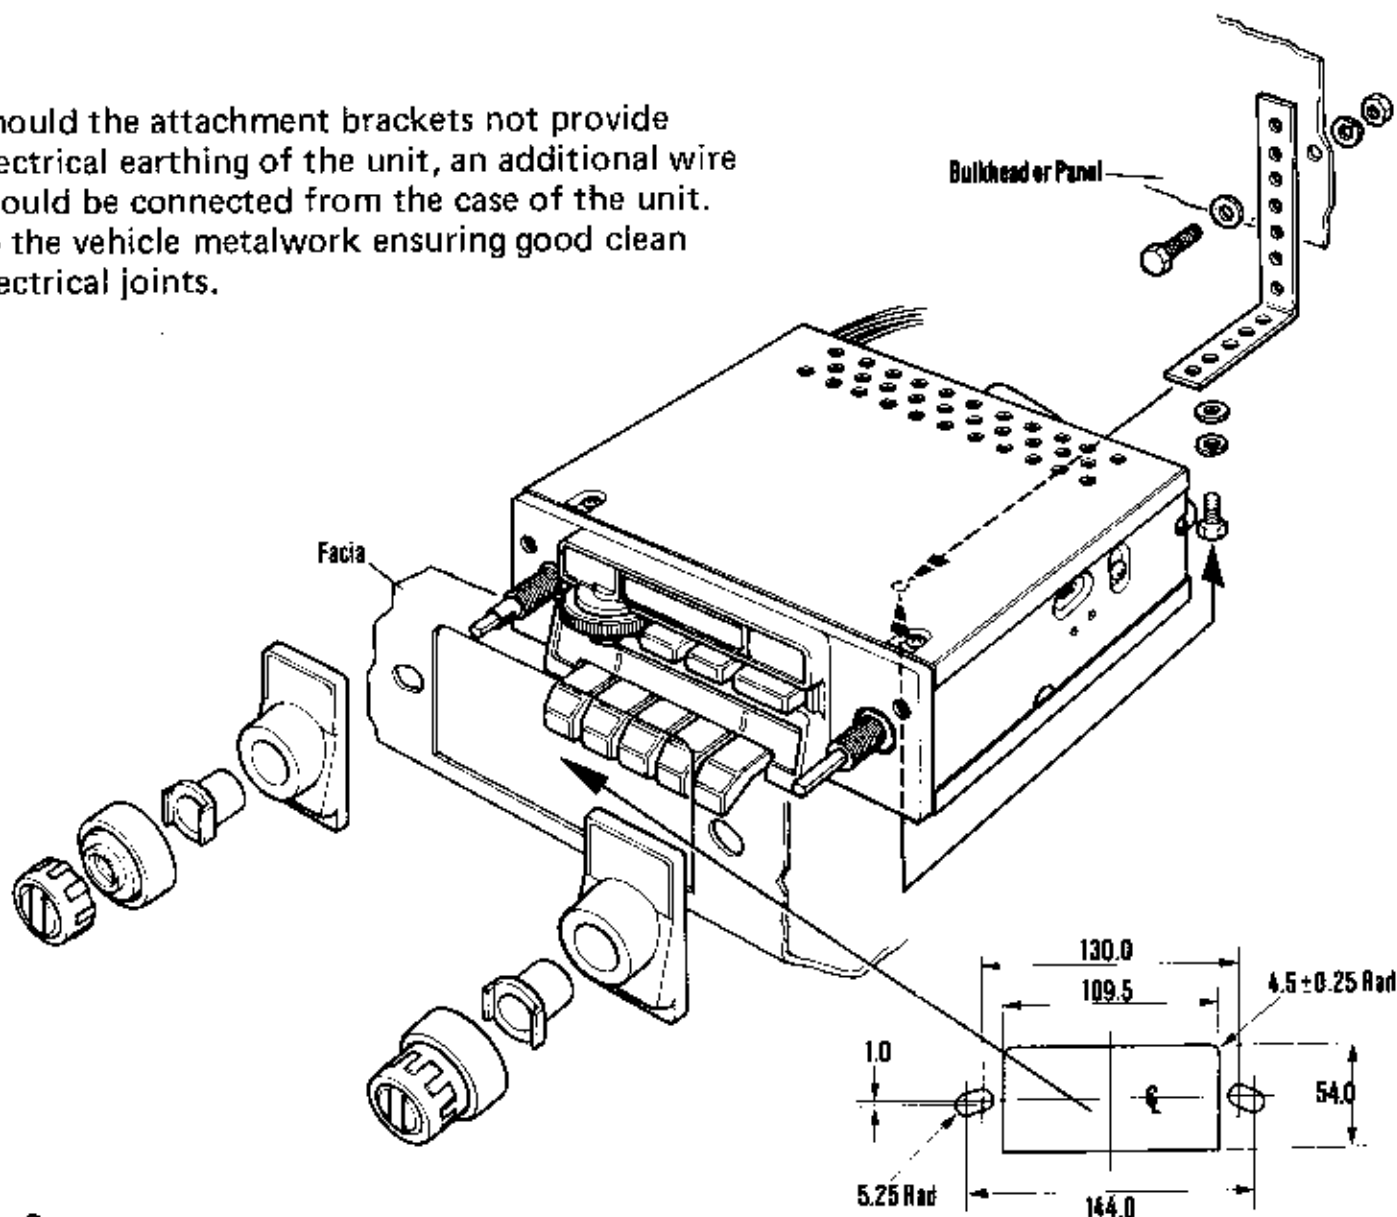

Fig. 3
Carefully select a mounting location where the unit can be conveniently operated by the driver without interfering with normal driving functions and where there is sufficient space in front of the unit for the insertion and removal of a cassette. If apertures with holes for radio spindle bushes and dial case are provided in the fascia, the unit may be mounted behind the fascia as shown in Fig. 3 but if the dimensions of these apertures are different from those required (as indicated in Fig. 3), it may be necessary to enlarge them to accept the unit. Before doing so, carefully check that there is sufficient space behind the fascia aperture for the unit and that it will be clear of control cables, wires, hoses etc. Check that sufficient flat area on the panel exists to allow the rear edge of the styling moulding to seat down properly when the unit is finally in position through the panel.
Alternatively, face plates having the required apertures and a flange for attachment below the fascia or parcel tray are available and may be purchased from your local Radiomobile Dealer. However the unit is mounted, it is essential that a bracket, made from the perforated strip supplied, is used to support the rear of the unit. Check that a suitable point exists for the attachment of this bracket to the vehicle bodywork and that sufficient access is available to secure the bracket. The perforated strip may be cut and bent to form a suitable bracket. A suggested mounting is given in Fig. 3 but the method to be used will depend on conditions in the particular vehicle involved.
8. Assemble the unit to the panel as shown in Fig. 3 and secure the rear support bracket to the panel or bulkhead with the fixings supplied.